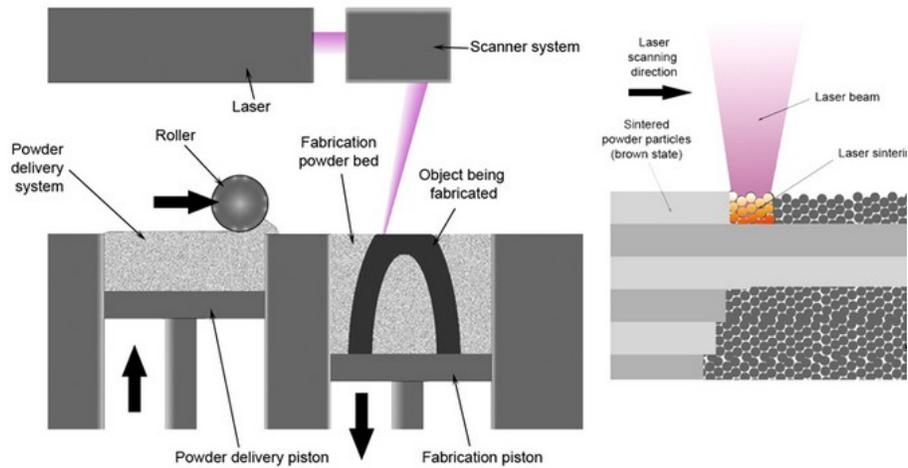

Figure 4. Illustration of beam deposition process.
4) 3-D Printing has gained popularity with the aerospace industry for making metal parts. One of the metal printing methods is selective laser sintering (SLS), which uses a laser beam to scan a metal powder bed layer by layer as shown in Figure 4. The metal powder particles are joined together by sintering. Sintering occurs by diffusion of atoms through the microstructure.